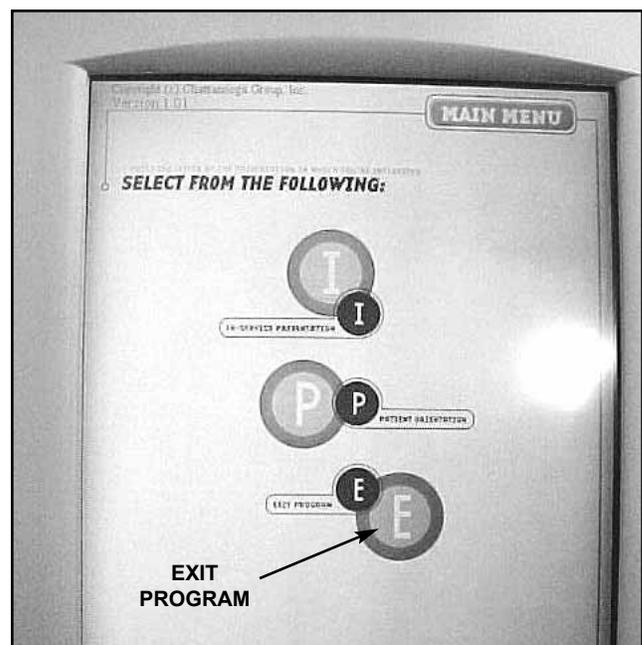

FIGURE 5.33
5. Press “Multimedia Presentation”. Listen and watch the introduction of the multimedia presentation until the window in Figure 5.33 is displayed.